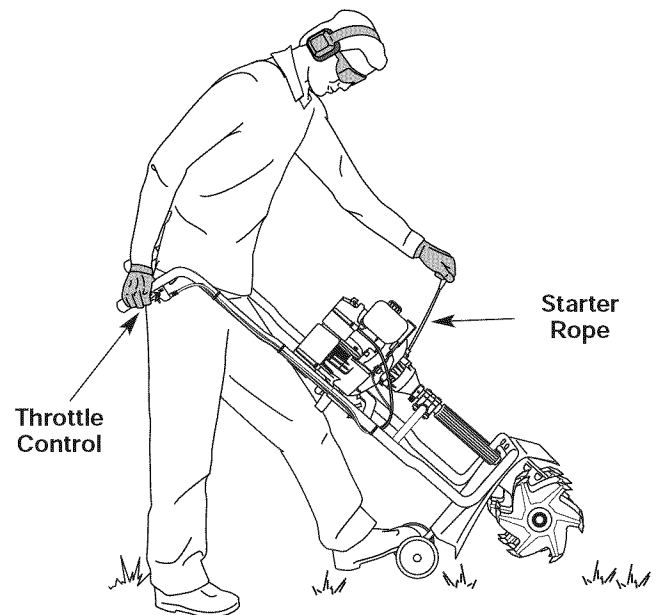

Fig. 8
WARNING: Avoid accidental starting. Make sure you are in the starting position when pulling the starter rope (Fig. 8). To avoid serious injury, the operator and unit must be in a stable position while starting.
5. Stand between the handlebars and support the unit by placing your left foot on the wheel bracket assembly and gripping the handlebar grip with your right hand (Fig. 8).